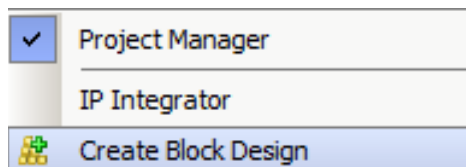

Figure 21: Flow Navigator: Create Block Diagram
12. In the Vivado IDE, select **Flow > Create Block Design** to create a new block diagram, (Figure 21).